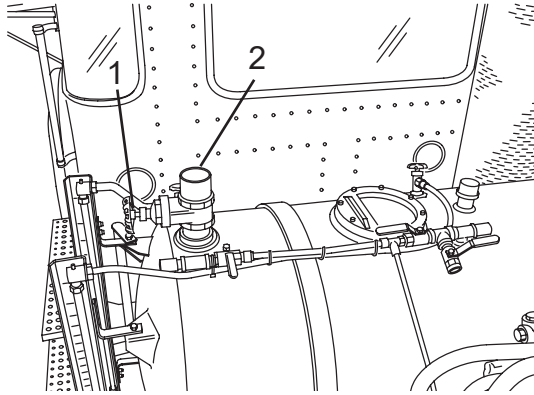

Figure 87
2. Open the chemical tank gate valve (Figure 87, Item 1) and add the chemical through the inlet (Figure 87, Item 2).